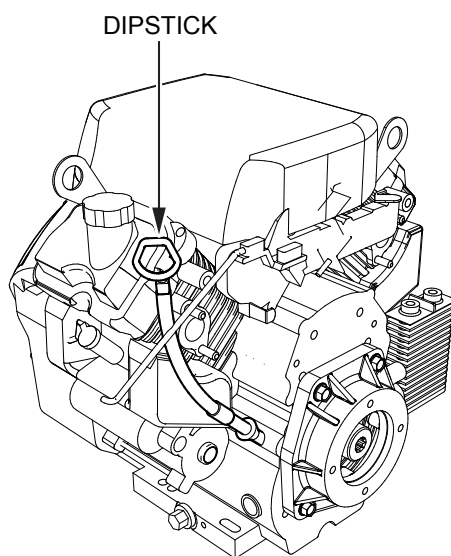

Figure 8. Engine Oil Dipstick (Removal)
2. Remove the dipstick from its holder (Figure 8) and wipe it clean.